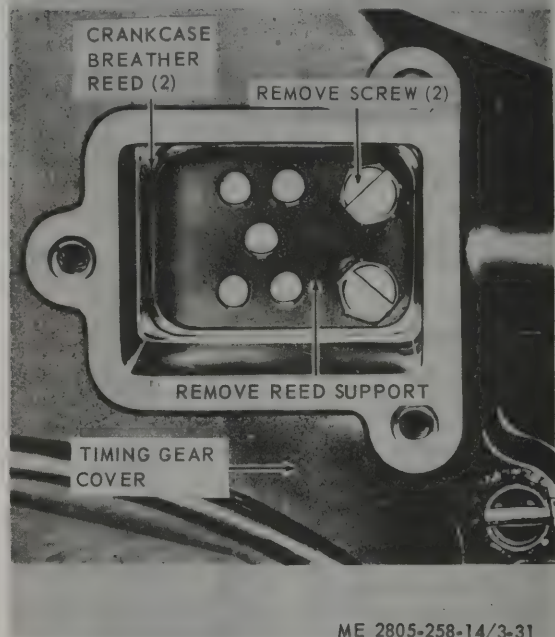

Figure 3-31. Crankcase breather reed, removal and installation.
- (1) Remove air cleaner elbow and breather cover (para 3-24).
- (2) Refer to figure 3-31 and remove crankcase breather reed.
- (1) Refer to figure 3-31 and install crankcase breather reed.
- (2) Install air cleaner elbow and breather cover (para 3-24).